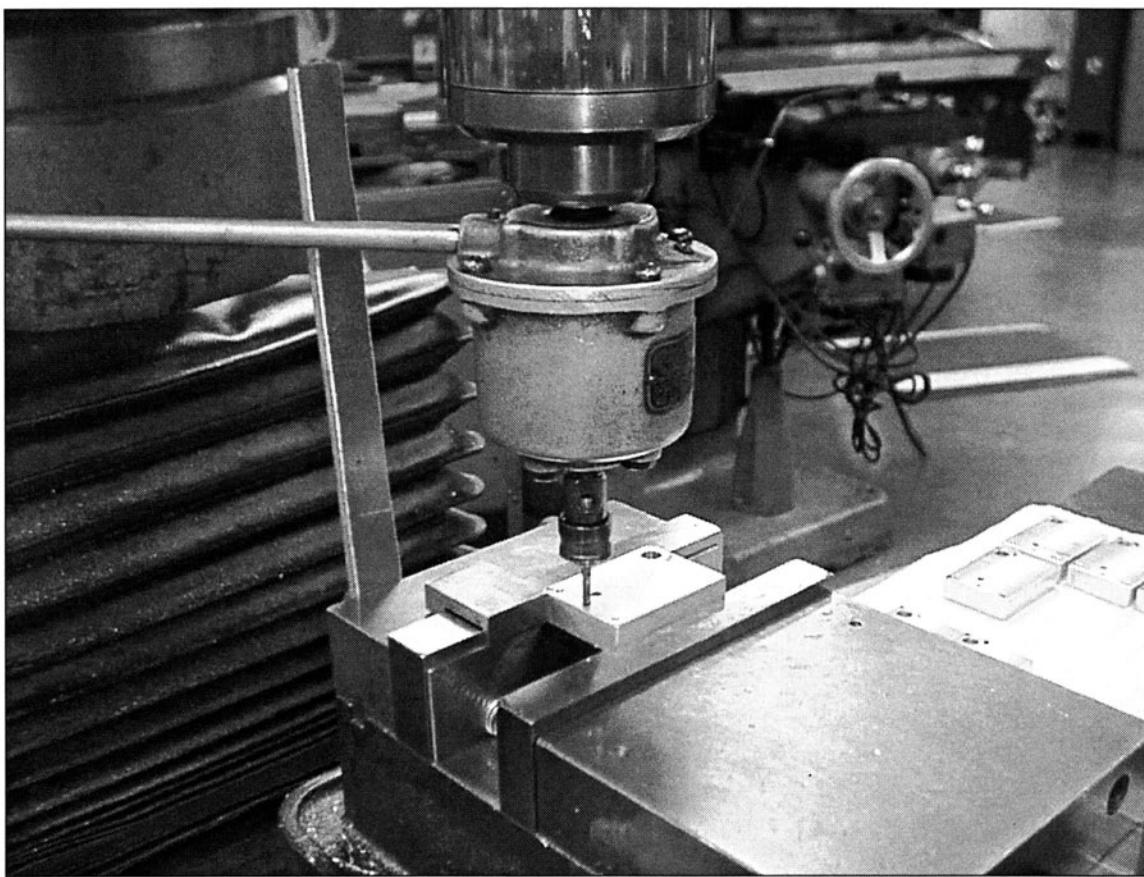

FIGURE 8-11 Clutch type tapping heads work well for production tapping.
19. *Roll form internal threads with chipless taps in ductile material. (See Fig. 8-11)*